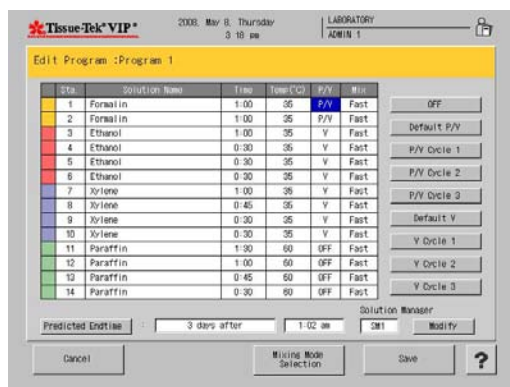

Figure 3-FFF
1. Touch the P/V field for the step to be modified (Figure 3-FFF).